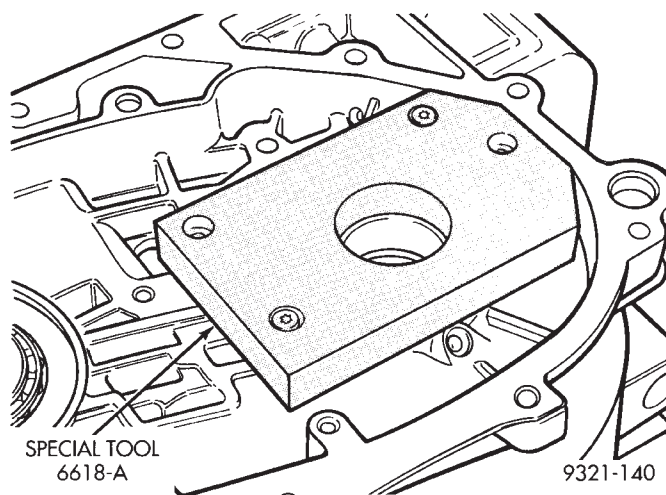

Fig. 148 Special Tool Installed
(2) Install special tool 6618A (Fig. 148). Lightly tighten retaining screws. Screws should be below the plate surface, but do not snug screws.